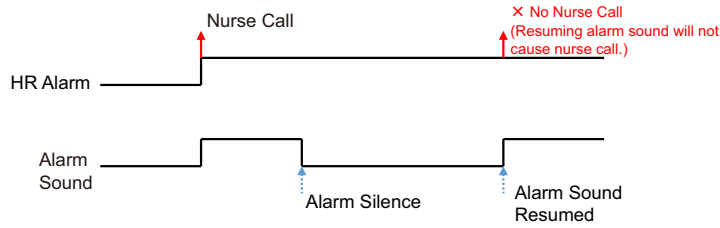

Figure 4: When the alarm sound is resumed after the alarm silence duration
- When the alarm sound is resumed after the alarm silence duration, or when the alarm generates again during the alarm silence duration, the alarm will not be notified to nurse call (Figure 4, 5).